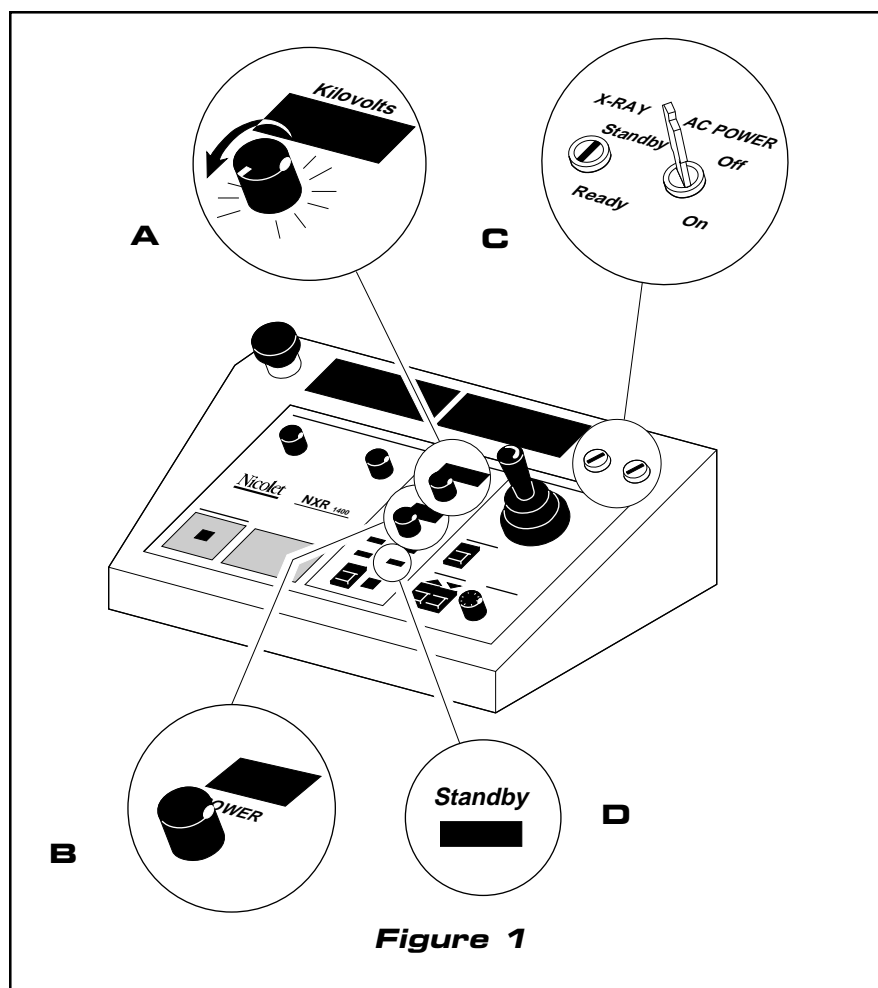

Figure 1
2. Set the voltage to its lowest setting by turning the **Kilovolts** control all the way to the left (Figure 1-A).
3. Set the power to its lowest setting by turning the **Power** control all the way to the left (Figure 1-B).
4. Insert the key in the **AC Power** key switch and turn it to *on* (Figure 1-C). The light flickers and then comes on in the camera area. The sample tray moves to the front left of the sample compartment.
The NXR needs approximately 10 minutes to warm up. After turning on the system, the **Standby** LED (Figure 1-D) comes on and remains on until the NXR is ready to generate x-rays.